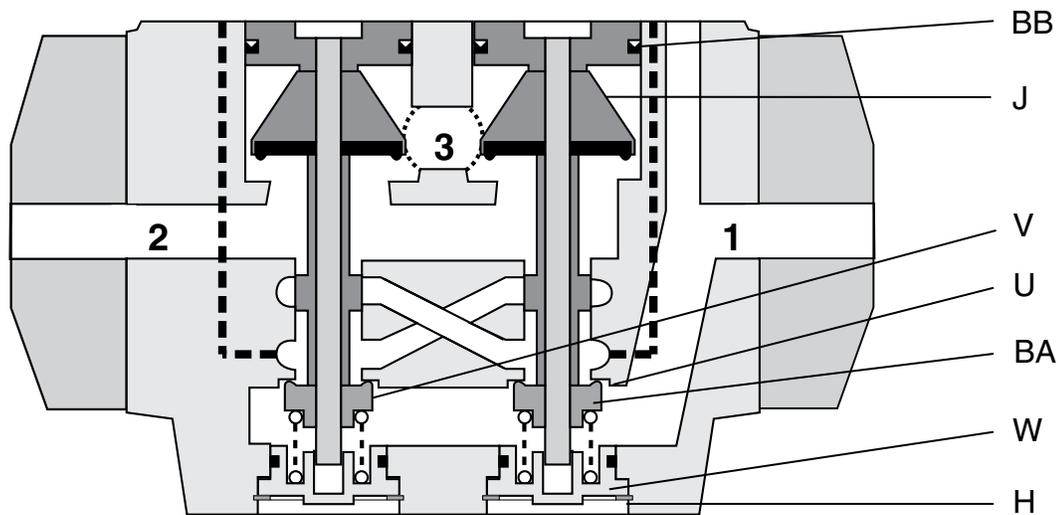

Figure 10 – Cross Section of Valve Body Assembly
**Disassembly Note.** Before removing the pilot assembly the solenoid leads must be slipped off the solenoid terminals. When the junction box is removed exercise care in withdrawing the solenoid leads from the passage through the valve body and monitor. To remove the valve elements, first remove the retaining rings H (Figure 10), end plugs W, and springs BA at the lower end of the bores. Pull inlet poppets U and V off the valve stems, and remove the remaining parts of the valve elements through the top of the valve body.
A worn or damaged piston seal BB (Figure 10) can allow pilot pressure to leak by the piston and cause erratic valve action and intermittent lockouts. Disassemble to inspect seals. See *Repair Procedure K* for disassembly instructions.